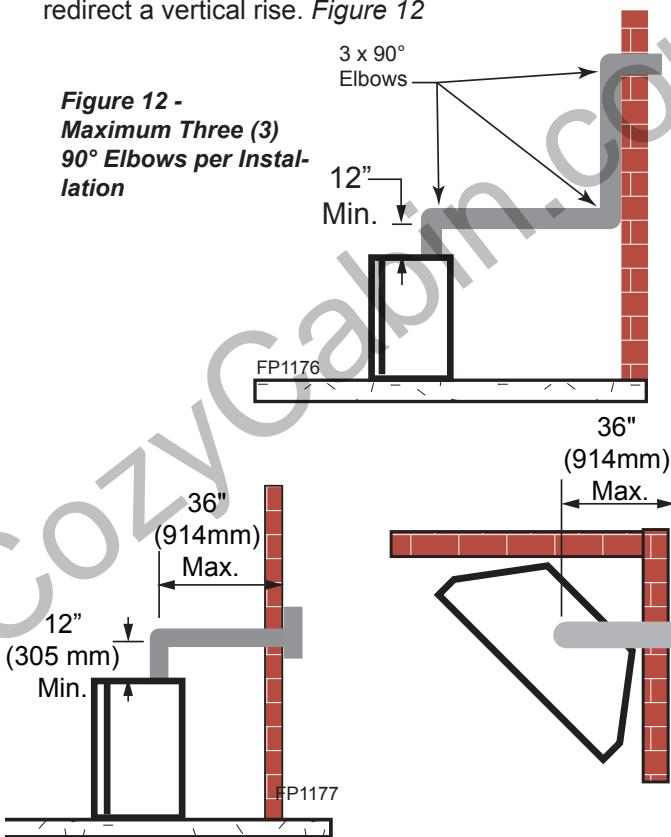

Figure 13 -
- If the min. 12" rise with a 90° elbow is fitted directly on top of the first 12" section, the maximum horizontal vent run before the termination or a vertical rise is 36" (914 mm). *Figure 13*
- If a 90° elbow is used in the horizontal vent run (level height maintained) the horizontal vent length is reduced by 36" (914 mm). *Figures 13 & 14*. This does not apply if the 90° elbows are used to increase or redirect a vertical rise. *Figure 12*